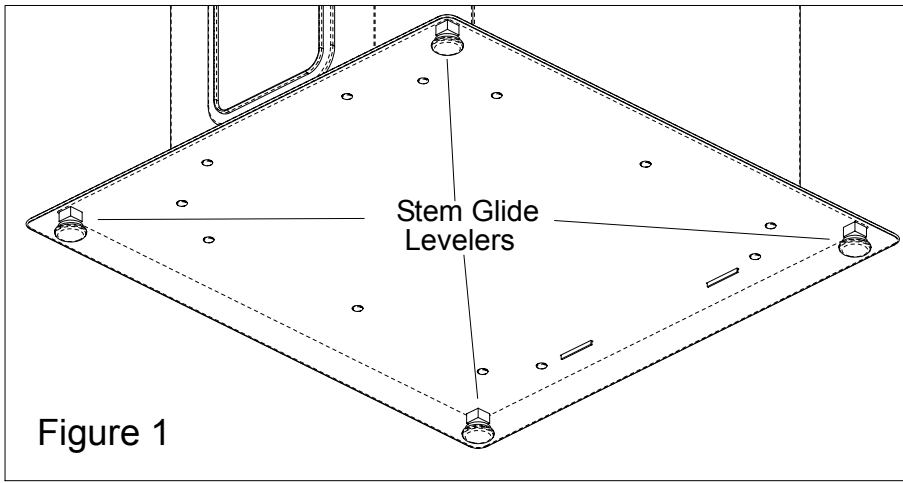

Figure 1
2. Use stem glide levelers underneath unit to level machine (see figure 1).